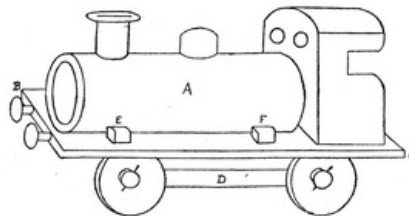
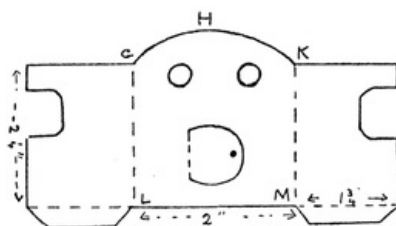

FIG. 230
FIG. 231
**A Train.** (1) *The Engine* (Fig. 230). The body of the engine, A, is a long mantle-box or a piece of old curtain pole, about  $4\frac{1}{2}$  inches long. The wooden bottom, B C, is  $6\frac{1}{2}$  inches by  $2\frac{1}{4}$  inches. A is glued to B C and kept in position by wooden blocks, E and F. The funnel and the dome are made from corks or pieces of round wood; their ends must be slightly concave, so that they may fit securely to A. A ring of cardboard is gummed to the top of the funnel, which may have a hole in it to take a piece of cotton-wool for smoke. The rim of the funnel and the dome are coloured yellow. The boiler can be covered with dark green or dark red paper. The buffers are pieces of round rod, to which cardboard discs are gummed.
The cab is made of cardboard, as shown in Fig. 231, and is coloured to match the engine. G K L M is gummed to the back of A (Fig. 230), and its sides are fastened to the footplate by the flanges.
The wheels should be about  $1\frac{1}{2}$  inches in diameter and are fastened underneath B C, as described in Chapter XIII. Strips of cardboard, coloured black (D in Fig. 230), are glued to the wooden blocks behind the wheels.